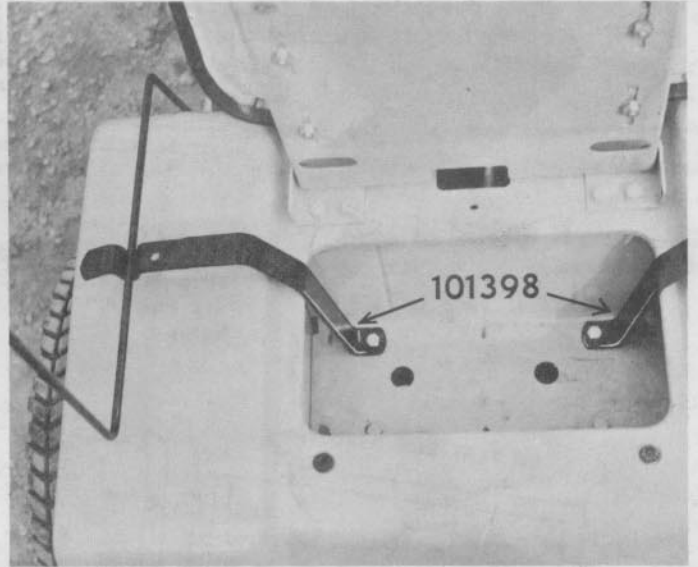

FIGURE 2
12. Tilt seat ahead and remove two front bolts in tool box. Bolt latches to tractor using  $\frac{3}{8}$ " x 1" hex bolts. (See Figure 2).